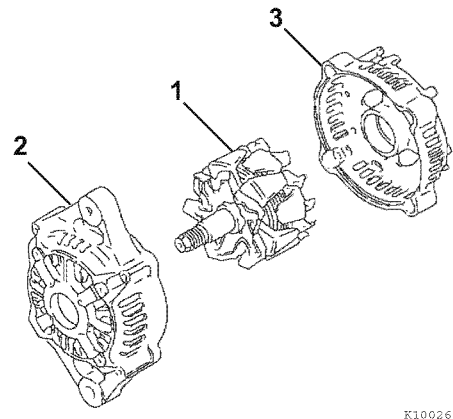

Figure 12-9
- Using a press, remove the rotor assembly (1, **Figure 12-9**) from the front frame housing (2, **Figure 12-9**) and rear frame housing (3, **Figure 12-9**).